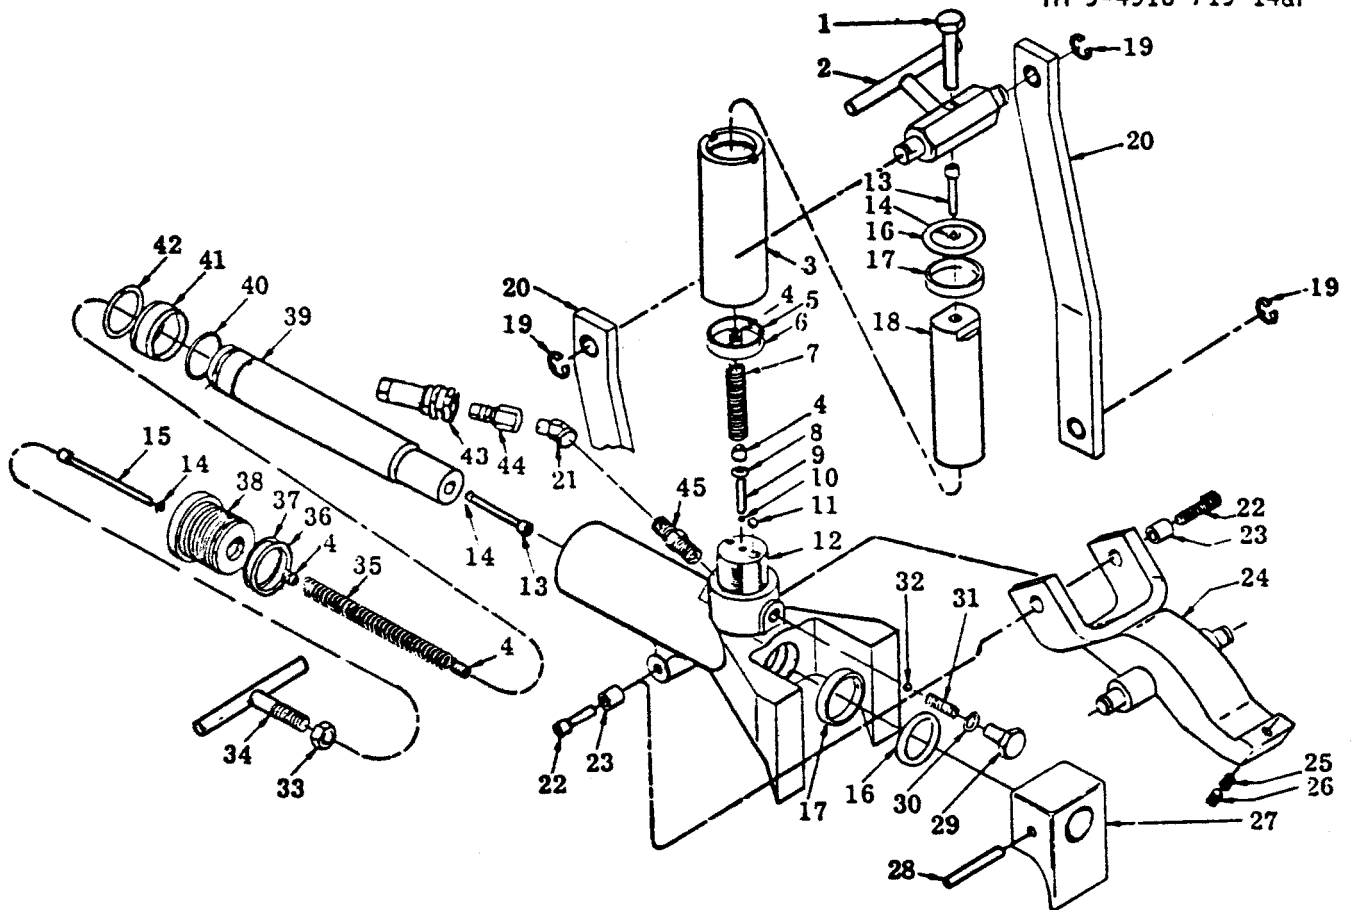

Figure 5. Bead Breaker Parts Drawing
Table 1 lists problems, probable causes and solutions of the bead breaker and pump. Refer to Figures 5 and 6 for item numbers.
| Rods fail to retract   | Hydraulic pump doesn't release1. Dirt under pump pedal in release valve area clean.Bearing is misaligned on breaker rod (item 41, Figure 5) - correct or replace.Broken or weak springs (item 7 or 35) replace.  |
| Both rods extend at the same time.   | Hydraulic pressure in breaker cylinder increases before clamping rod is fully extended.1. Sequence ball (item 32, Figure 5) not seated or broken or weak spring (item 31, Figure 5) correct or replace.2. Loose screw (item 9, Figure 5) and ball not seated (item 10, Figure 5) correct or replace. |
| Breaker rod retracts after clamping rod.   | Hydraulic pressure in breaker cylinder is not being released.1. Fluid return ball (item 11, Figure 5) didn't unseat correct or replace.2. Dirt plug in return port clean.Weak or broken spring in breaker cylinder replace.  |